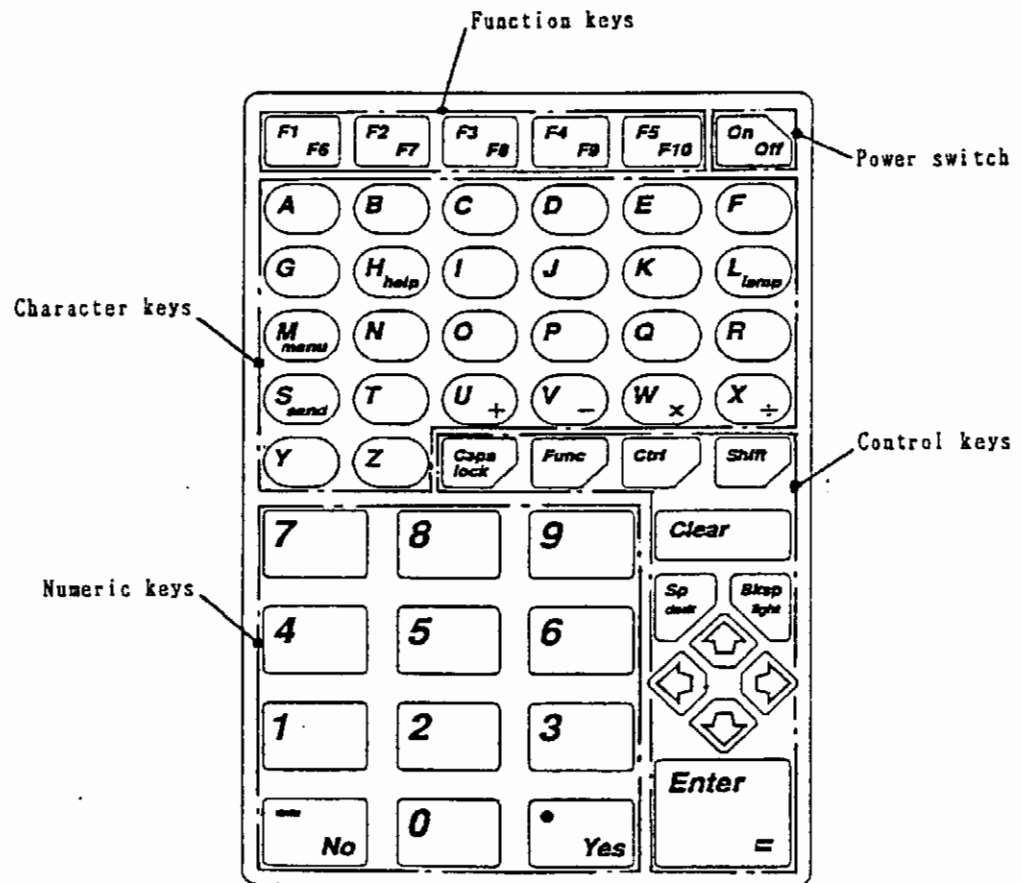

Fig. 4.1 Layout of keys
The SDR4E key unit consists of fifty-six (56) keys (See Fig. 4.1)
By pressing the keys indicated in Fig 4.1 in combination, more special characters and symbols can be displayed and printed.